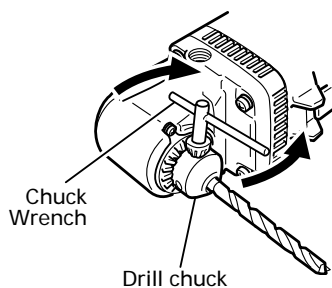

Fig. 2
7. Mounting drill bits (Fig. 2)